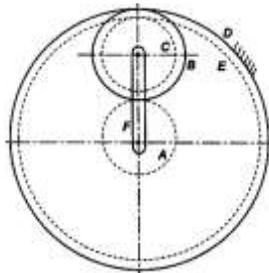

Figure 7
16. The figure 7 shows, the pinion A having 15 teeth is fixed to motor shaft.  $Z_b = 20$ ,  $Z_c = 15$ , where B and C are a compound gear wheel. Wheel E is keyed to the machine shaft. Arm F rotates about the same shaft on which A is fixed and carries the compound wheel B, C. If the motor runs at 1200 rpm counter-clockwise, find (a) the speed of the machine shaft, (b) the torque exerted on the machine shaft if the motor develops a torque of 200 Nm with an efficiency of 90%, (c) ratio of the reduction gear. CO6 [K4]